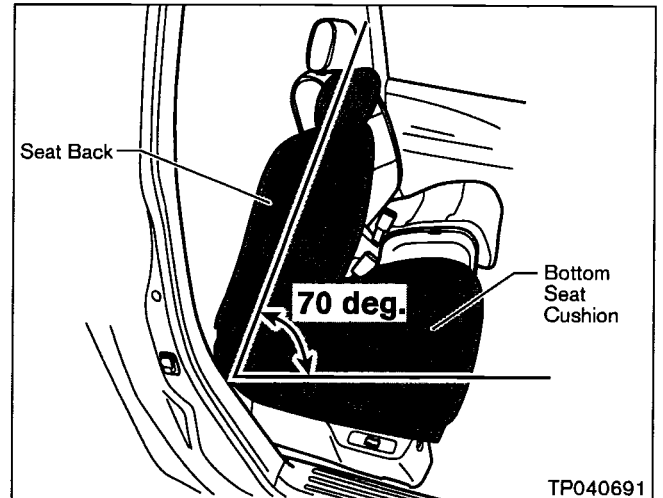

Figure 3
- The Seat Back is leaning forward (towards the front of the vehicle - about 70°). See Figure 3.